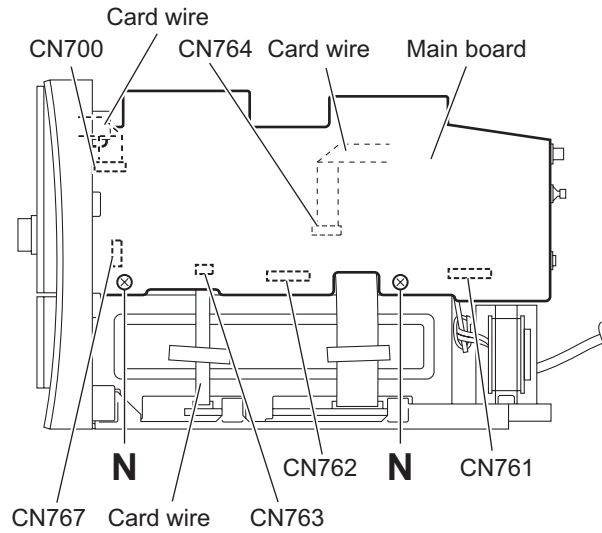

Fig.17
3.1.8 Removing the main board (See Fig.17)